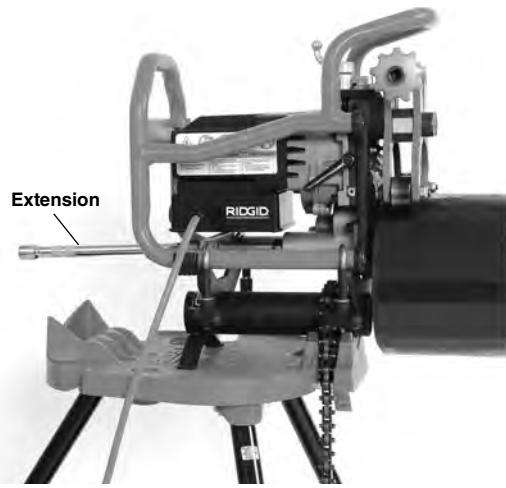

Figure 10 – Fixed Beveller, Pipe under 12" Long, under 50 Pounds
8. Install the supplied 10" long 1/2" drive extension in the Beveller drive shaft (see *Figure 10*).
9. When beveling pipe less than 12" (300 mm) long and less than 50 pounds (22 kg), as long as the beveller and Portable TRISTAND Pipe Vise are stable and secure, no pipe stand is needed to support the pipe. Pipe is placed directly on the drive roll and secured with the guide rolls (*Figure 10*).
Confirm that the beveller, pipe stands and pipe have been properly set up (see Figures 10, 12 and 13).